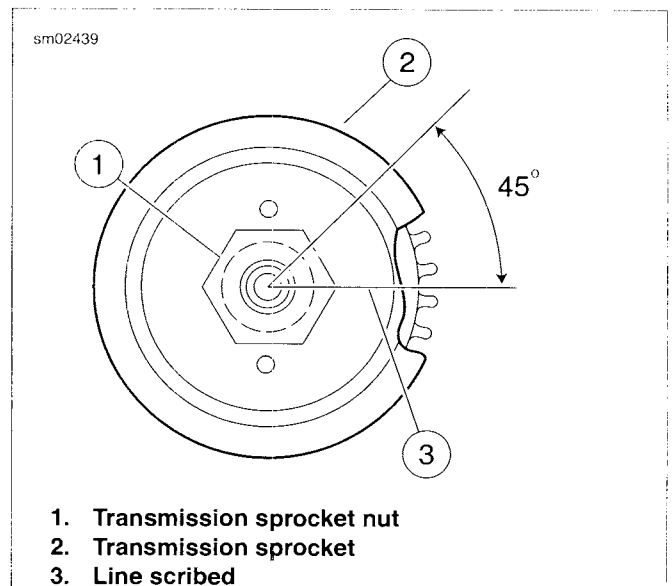

Figure 5-43. Transmission Sprocket Nut Final Tightening
8. See Figure 5-43. Scribe a line (3) on the transmission sprocket nut (1). Continue the line on the transmission sprocket (2) as shown.